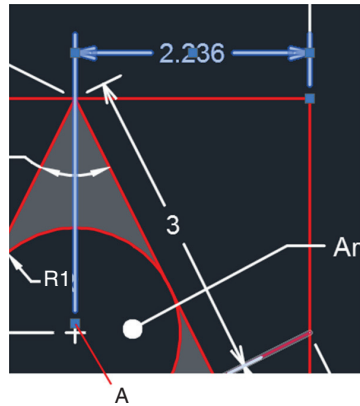

FIGURE 11.21 Grip-editing a dimension object
2. Click the horizontal linear dimension with a value of 2.236 to select it. Click the lower-left grip to adjust the length of this extension line. Snap the grip to point A in Figure 11.21. Press Esc to deselect.